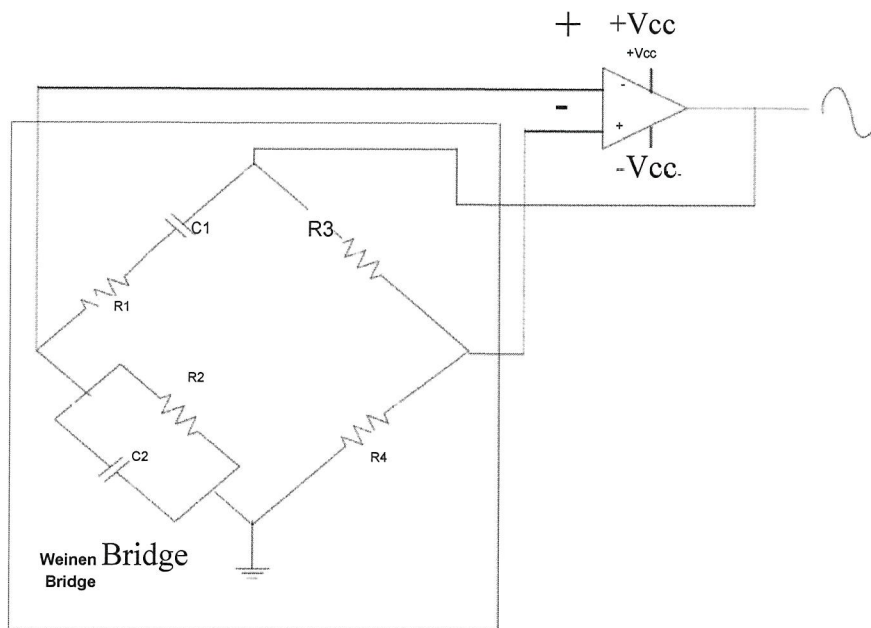

Figure Q1(c)
- (c) The Wien-bridge oscillator is shown in **Figure Q1(c)** as one of the most commonly used for audio oscillator which employs RC feedback networks. Given $R_1 = R_2 = 10\text{ k}\Omega$, $R_3 = 15\text{ k}\Omega$ and $R_4 = 20\text{ k}\Omega$, analyze the values of C1 and C2 that cause the circuit to oscillate at 15 kHz. (15 marks)